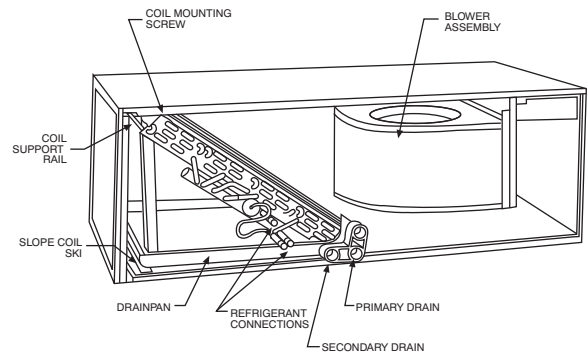

Fig. 5 - Conversion for Horizontal Right Applications Using a Slope Coil (FB4C only)
1. Remove blower and coil access panel and fitting panel. (See Fig. 5.)
4. Lay fan coil unit on its right side and reinstall coil assembly with condensate pan down. (See Fig. 5.)